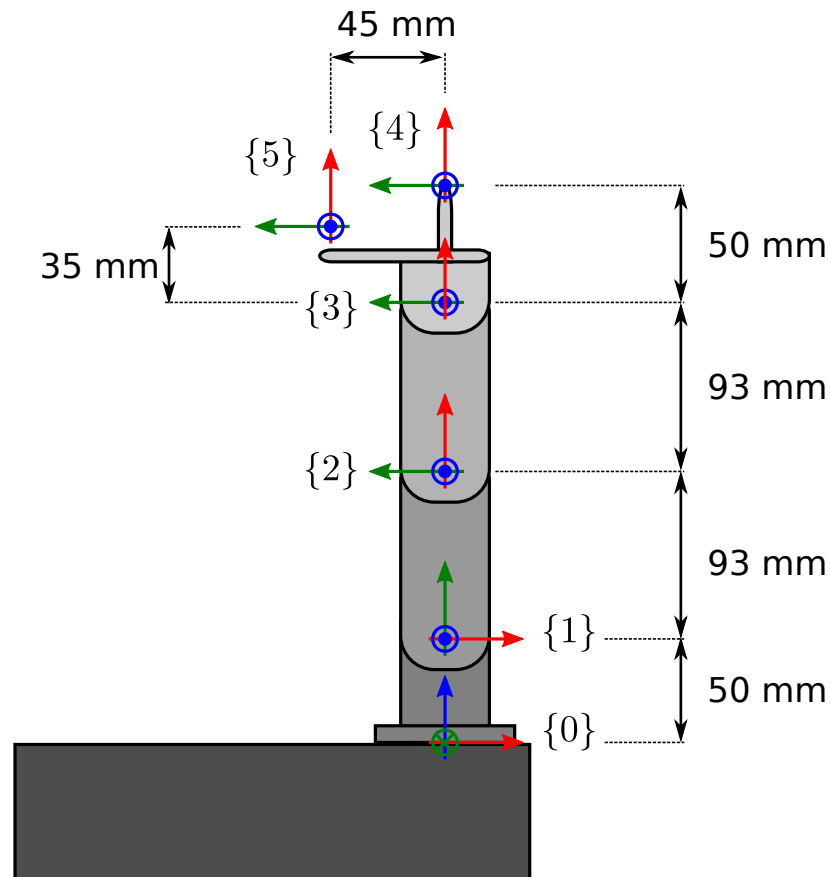

Figure 1: Robot model in its default configuration and fundamental dimensions.
Figure 1 shows a schematic of the robot with a set of **coordinate systems** following the **Denavit-Hartenberg convention** (except for frame 5). The dimensions given in the schematic are indicative and you might need to revisit them in PART 5 of this assignment, in order to better represent the actual robot that you will work with.
•**Problem 1:** Find, by the use of Figure 1, the direct kinematic transformations, T_4^0 for the robot stylus, and T_5^0 for the robot camera, as function of all joint angles.
Hint 1: Feel free to refine the dimensions and frame positions that you have received in Figure 1, in order to match the actual hardware you are using.